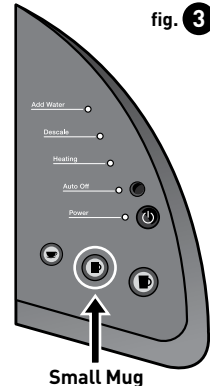

fig. 3
- Lift and lower the Handle. Press the Small Mug Button to start a cleansing brew (fig. 3). Pour the hot water into the sink.